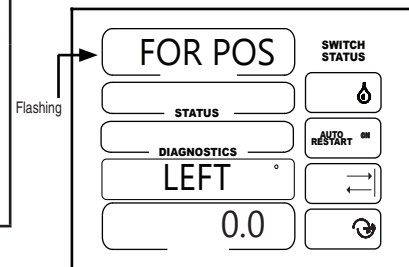

Figure 10-3
1. FOR POS should be flashing. See figure 10-3.